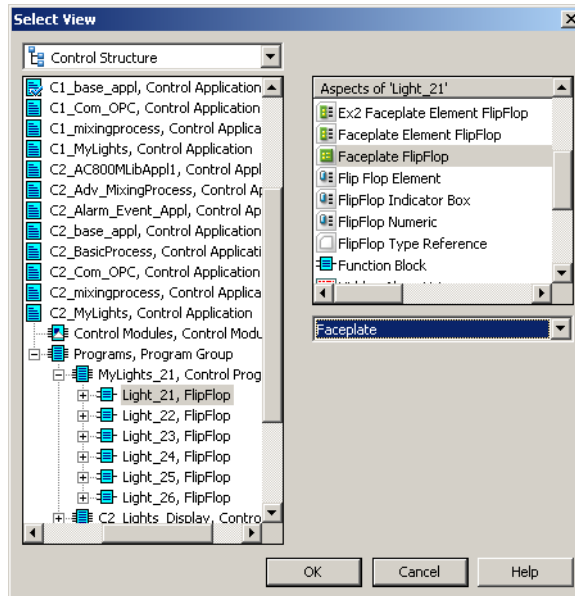

Figure 94. Select View to a Group Display Aspect
3. Click **Add** to add an aspect view. The Select View dialog box will be displayed. See Figure 94.
4. Select wanted structure, object, aspect and aspect view, see Figure 94.